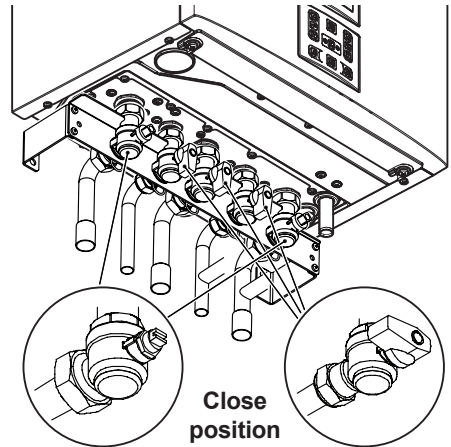

Fig. 2.35
- Shut off the gas supply cock and the valves for the water circuits fitted under the boiler Fig. 2.35.